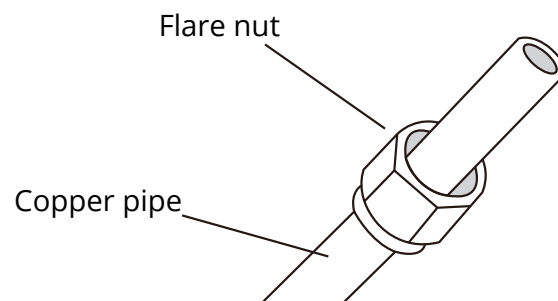

Fig. 6.3
3. Place flare nuts on both ends of pipe. Make sure they are facing in the right direction, because you can't put them on or change their direction after flaring. See **Fig. 6.3**.